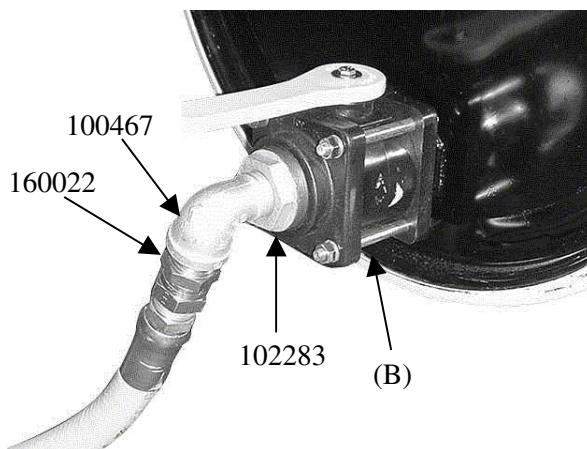

Figure 10. Bottom Barrel Fittings
4. Install a Polypropylene Ball Valve 2"M X 2"F (B) (Figure 10) at the bottom port of the drums to be placed on the bottom of the barrel stand.
8. Install fittings (100467, 160022, and 102283) on valves of bottom barrels as shown in Figure 10 for connection to the inlet hose from the Husky pump (947096)